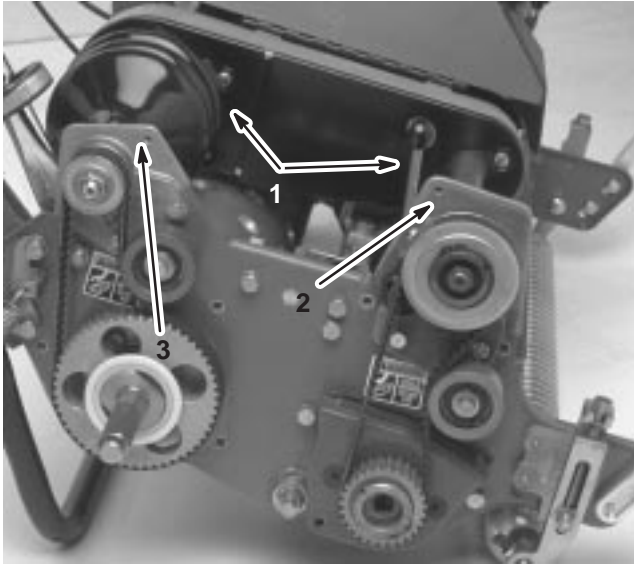

Figure 41
4. Remove the capscrews securing the front and rear sections of the differential cover to the differential housing and slide the cover sections away to expose the belt (Fig. 41).
6. Remove the 2 capscrews and locknuts securing the front clutch housing to the side plate (Fig. 41).
8. Remove the 2 capscrews and locknuts securing the right rear bearing housing to the side plate (Fig. 41).